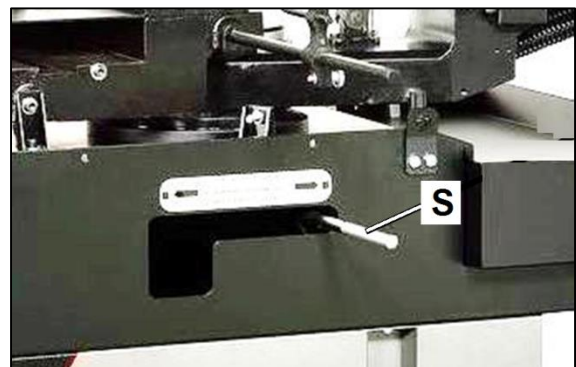

Figure 8-1: Mitre Cutting Adjustment
2. Press button (C) to start the hydraulic pump.
3. Use switch (M) to select manual mode
4. Use switch (J) to raise the saw bow.
6. Switch off Main power (A).
7. Un-clip saw bow, by rotating the lock lever (S, Fig 8-1) to the left.